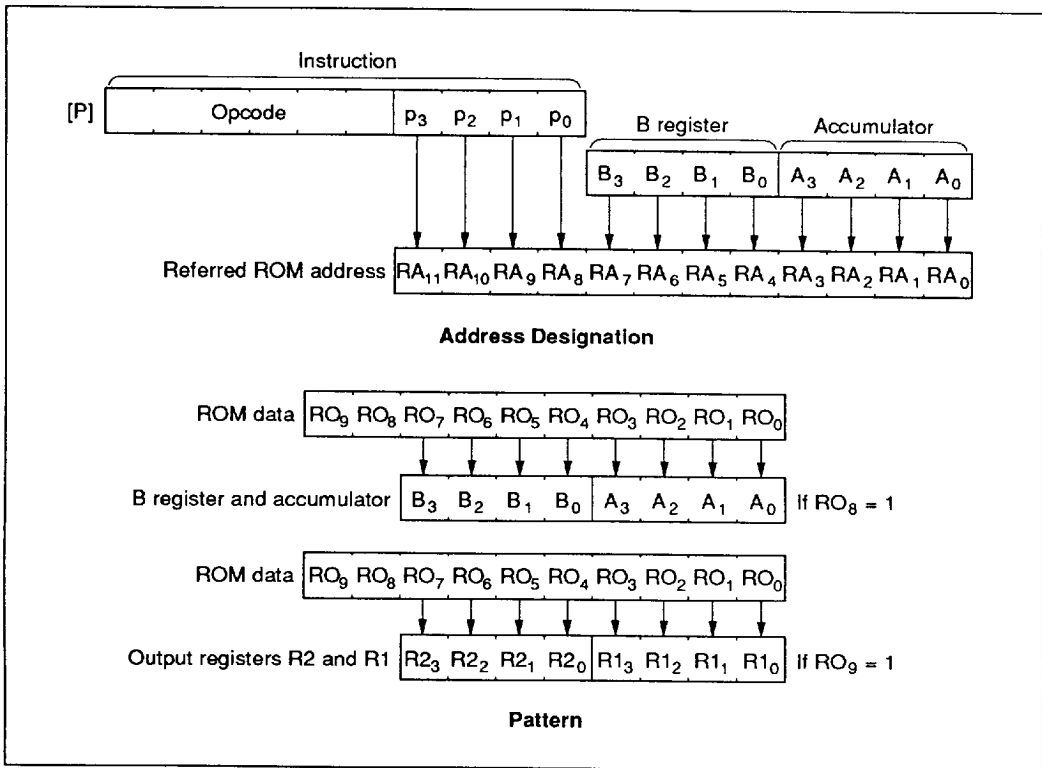

Figure 28 P Instruction
**P Instruction:** ROM data addressed by table data addressing can be referenced by the P instruction (figure 28). When bit 8 of the ROM data is 1 (RO8 = 1), 8 bits of ROM data are written into the accumulator and B register. When bit 9 is 1 (RO9 = 1), 8 bits of ROM data are written into the R1 and R2 port output registers. When both bits 8 and 9 are 1 (RO8 = 1, RO9 = 1), ROM data are written into the accumulator, B register, and R1 and R2 port output registers at the same time.